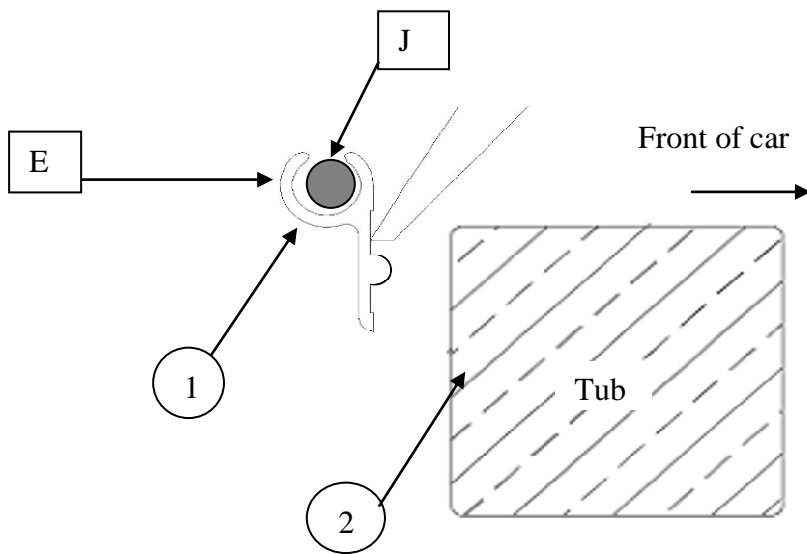

Figure 1
2. Rest the aluminum rope track on the side rails as Shown in Figure 1, and push forward to the vertical face of the tub.